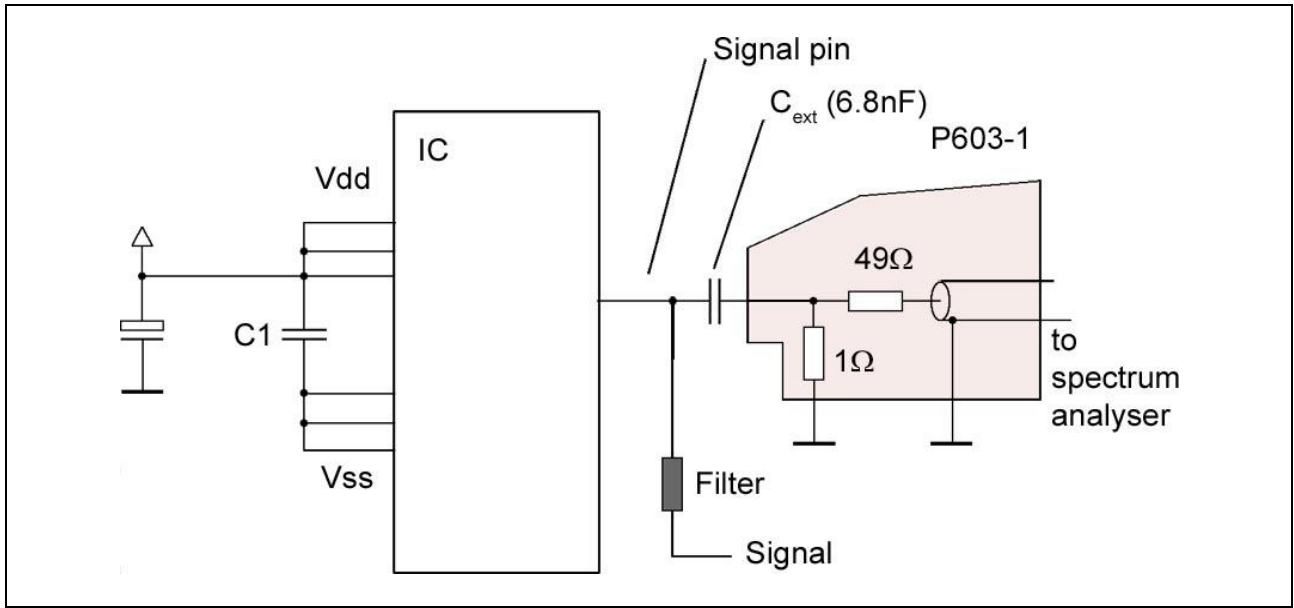

Figure 6 P603-1, current measurement on a signal pin while this is in operation.
5. Current measurement (**P603-1**) on a signal pin while this is in operation (with external capacity), **Figure 6**
The external capacitor C_{ext} can reduce the stress on the signal pin caused by the probe's low impedance (1 Ohm) (Figure 6) during current measurements on signal pins.